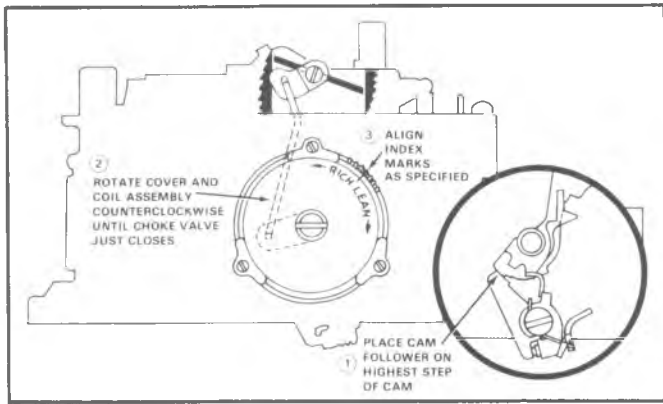

Fig. 51—Automatic Choke Coil Adjustment
### AUTOMATIC CHOKE COIL ADJUSTMENT (Fig. 51)
1. Install choke thermostatic coil and cover assembly with gasket in choke housing and align index mark on cover with specified point on housing (see Automatic Choke Coil Adjustment, Figure 51).